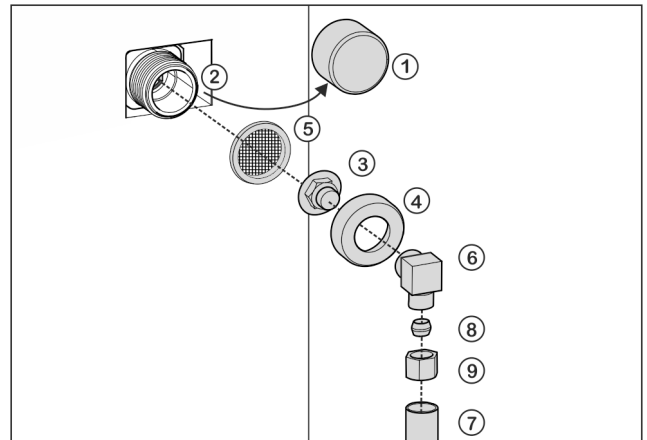

Fig. 26
- Remove the cap Fig. 26 (1) from the solenoid valve Fig. 26 (2).
- Insert the coupler Fig. 26 (3) into the union nut Fig. 26 (4).
Improper installation of the water filter Fig. 26 (5)!
- Insert the water filter Fig. 26 (5) with the recess pointing down towards the coupler Fig. 26 (3).
- Attach the union nut Fig. 26 (4) to the solenoid valve Fig. 26 (2) and tighten.
- Screw on the angle piece Fig. 26 (6).
- Connect the water hose Fig. 26 (7) (e.g. copper) to the angle piece Fig. 26 (6) using the clamp ring Fig. 26 (8) and nut Fig. 26 (9).
- Attach the water hose Fig. 26 (7) to the housing if possible, using the clip bracket.
- Put the angle piece Fig. 26 (6) to the side.
- Connect the water hose Fig. 26 (7) (e.g. copper) to the connecting piece Fig. 26 (3) using the clamp ring Fig. 26 (8) and nut Fig. 26 (9).